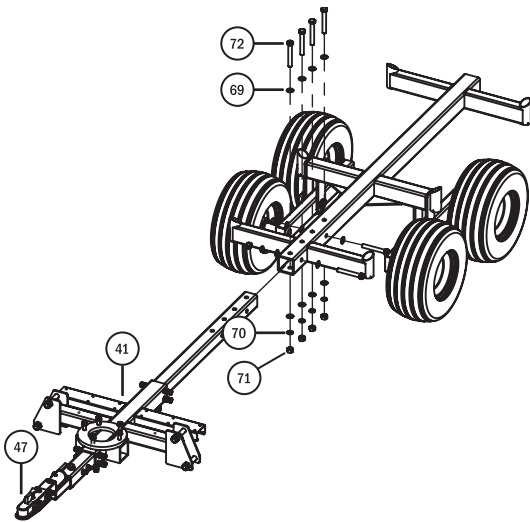

Fig. 6
Place the Tow Bar assembly near the front end of the Trailer Frame. With the Stabilizer Frame Base (41) close to the Swivel Coupler (47), lift on the end of the Tow Bar assembly while a second person tilts the Trailer Frame and begins to slowly move the Trailer Frame towards the Tow Bar Assembly. Guide the Tow Bar Assembly into the Trailer Frame, align the mounting holes, then install the six (top and side) Bolts (72), Washers (69), Lockwashers (70), and Nuts (71) as shown in Fig. 6. Tighten these fasteners between 240 and 260 ft-lbs.